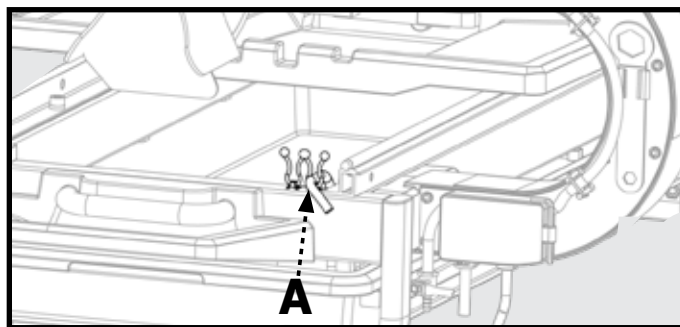

Figure 18
2. Place pump (14) in bottom of the bucket.
4. Secure slack hose and power cord to the snap ties provided on the rear of the saw (A, Fig.18).